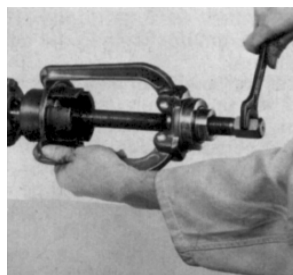

Fig. 25 Coupling puller.
1. Pull off the half coupling with the aid of an extractor. (see Figs. 25 and 26)